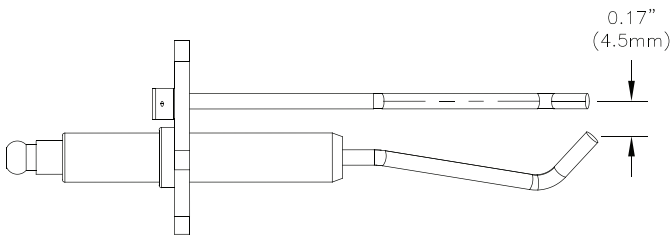

Figure 43: Igniter Electrode Gap
4. Remove the igniter assembly and flame sensor and inspect them for oxide deposits. Clean the oxide deposits from the igniter electrodes and flame sensor rod with steel wool. Do not use sandpaper for the cleaning. Inspect the ceramic insulators for cracks and replace the igniter assembly and/or flame sensor if necessary. Check the igniter electrode spacing gap. Refer to Figure 43 “Igniter Electrode Gap” for details.